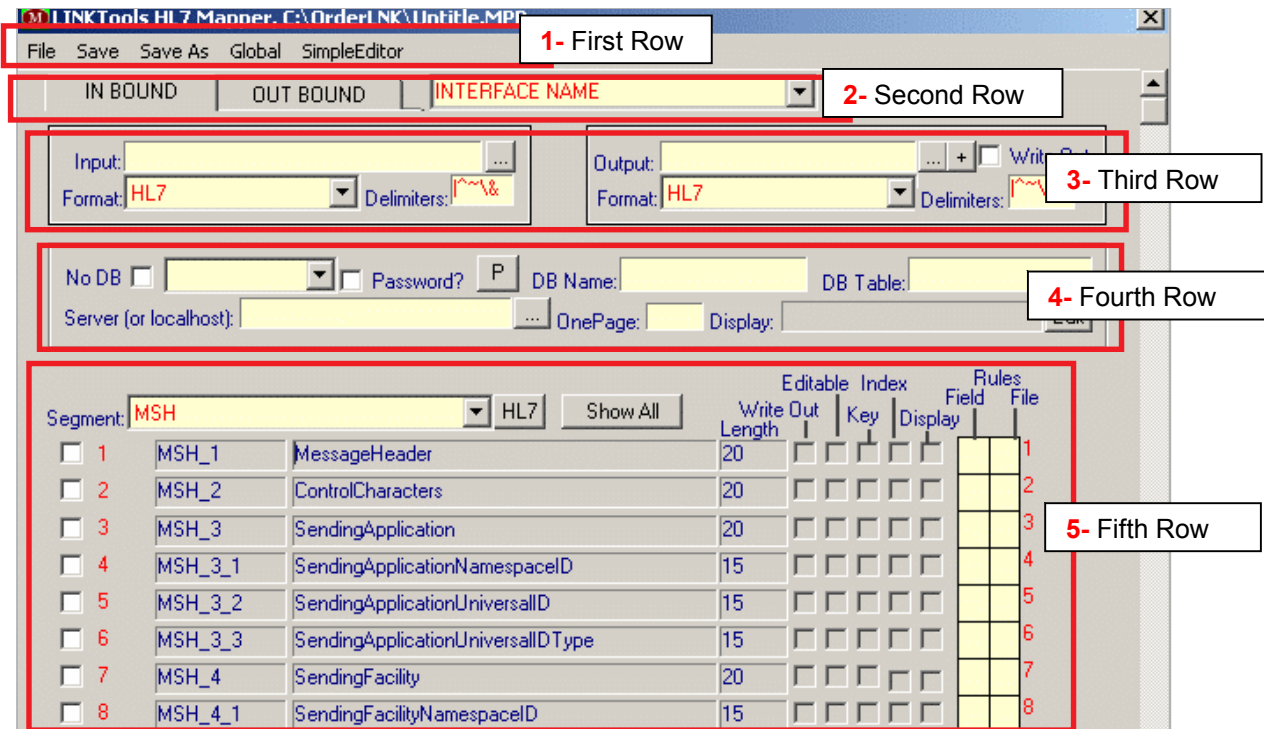

Figure 2: Dynamic Mapper Configuration Dialog Box layout.
2. Let take a moment to familiar yourself with the LINKTools® Dynamic Mapper Configuration Dialog Box (Figure 2), its features and functionalities.